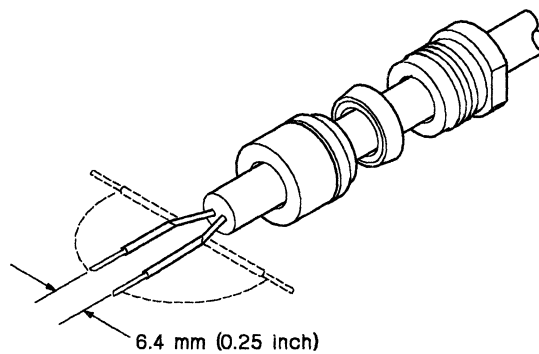

Figure 18. Bending the Conductors
7. Bend the conductors and the contacts out at right angles to the cable axis (approximately 6.4 millimeters [0.25 inch]) as shown in Figure 18. Then bend the conductors and contacts back parallel to each other.